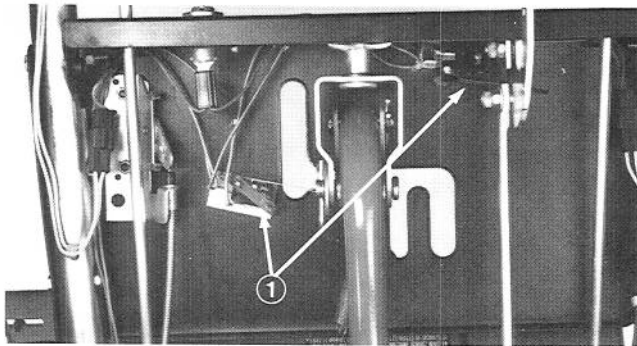

Figure 41
1. Loosen two capscrews and locknuts holding swivel bracket against control panel (Fig. 41).
2. To reduce speed in 1 — 1st gear — move swivel bracket (Fig. 41) to the right. By contrast, move swivel bracket to the left to increase speed in 1st gear.
3. When desired adjustment is obtained, tighten the two capscrews and locknuts (Fig. 41). Assure that wires do not get pinched between control panel and wire guide.